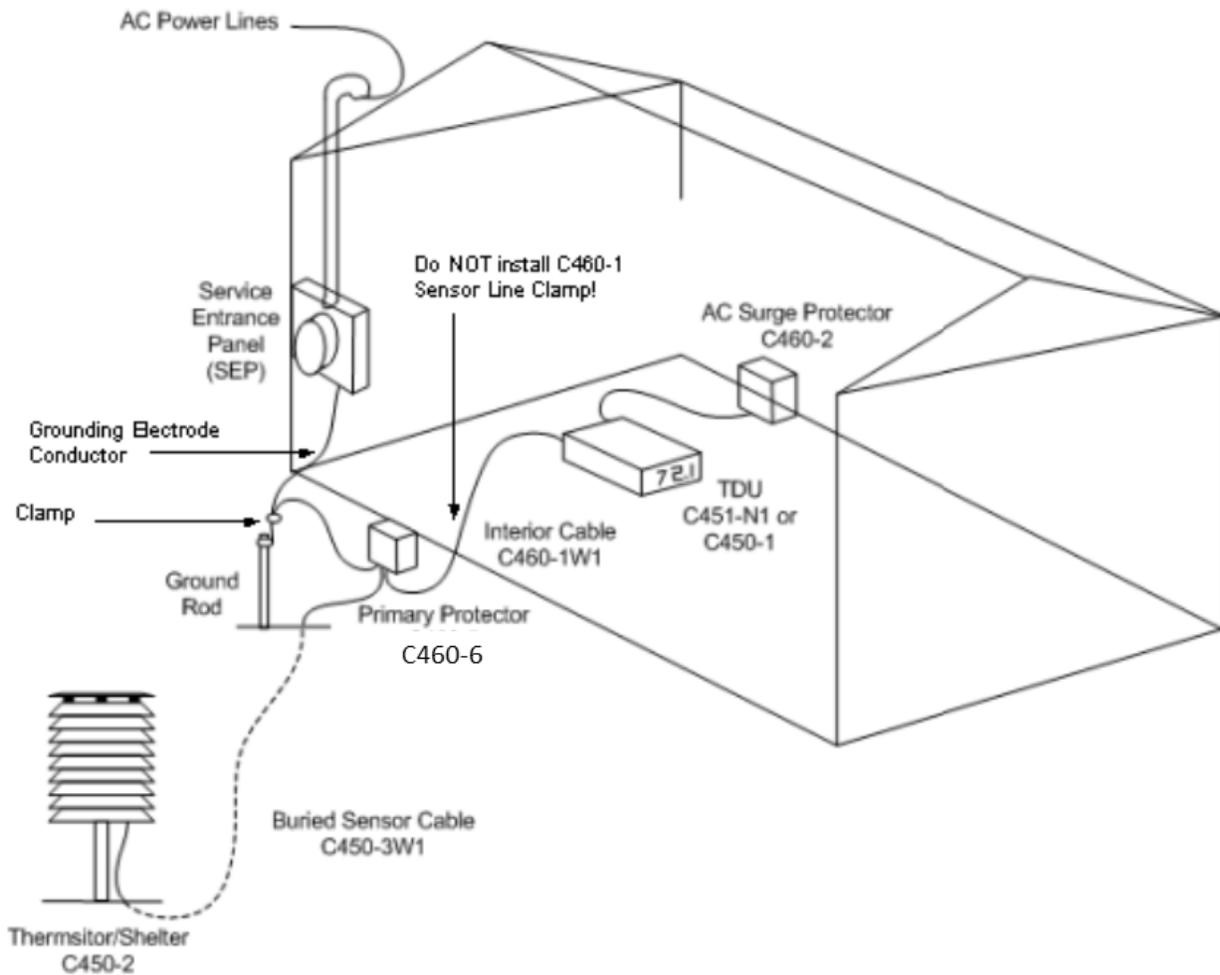
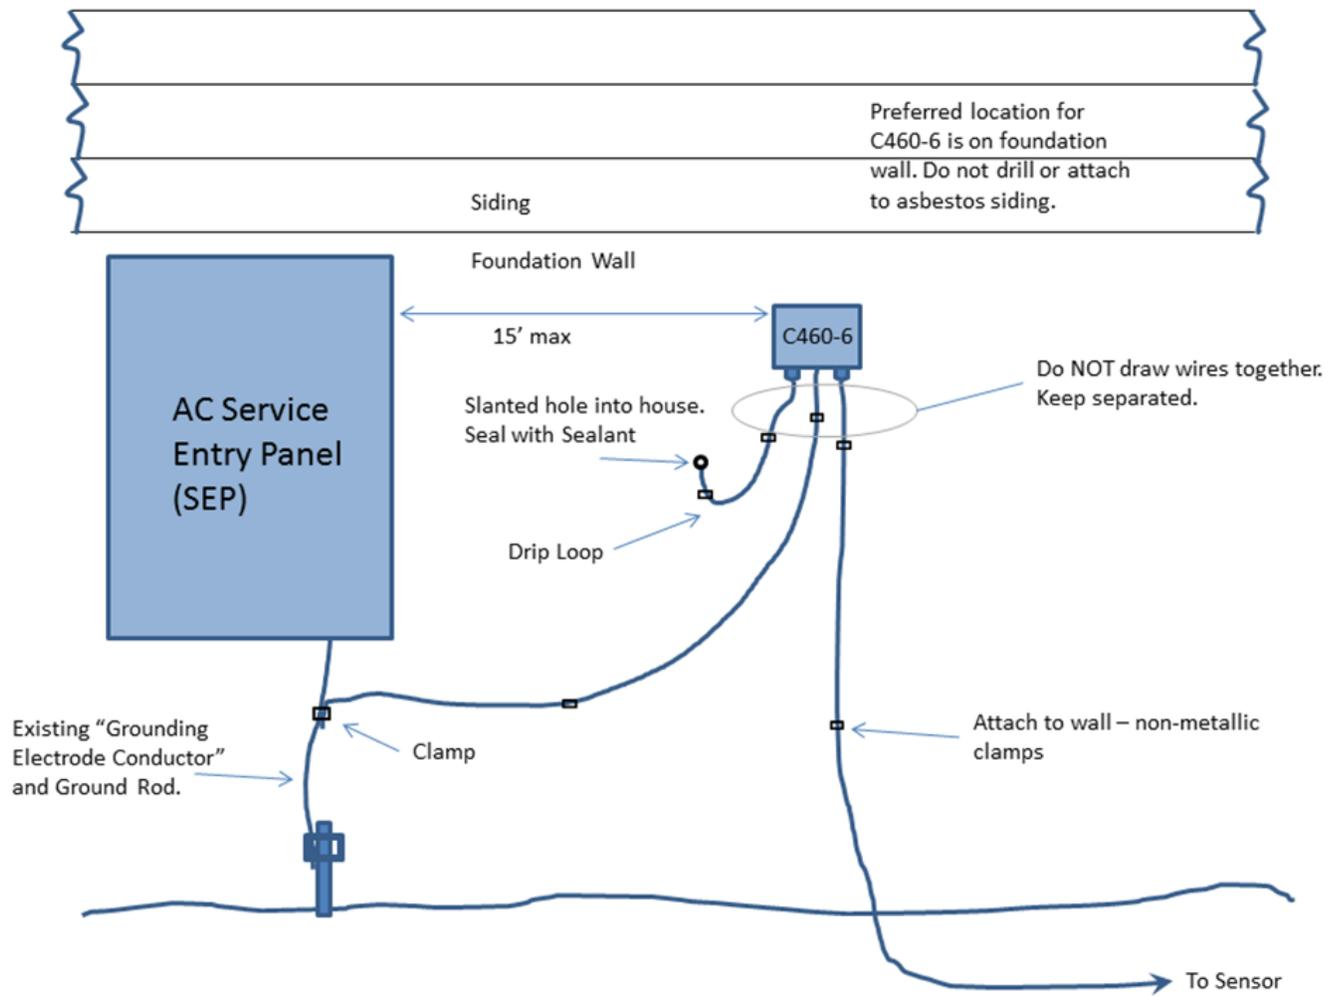
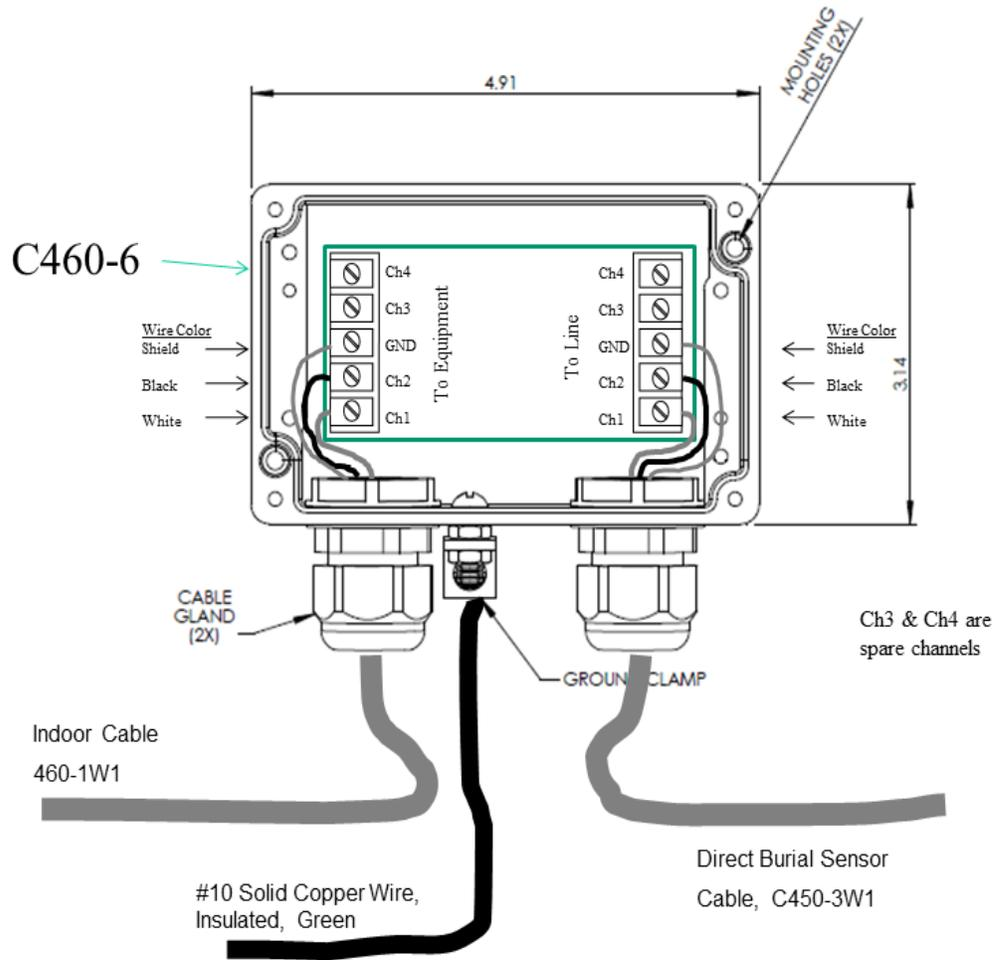

Figure A-1: SEP Installation
Figure A-2: Cable Entrance Details
Figure A-3: Primary Protector Wiring
This plan is focused on installations at residences, but is applicable to all facilities. It uses the grounding system of the SEP and will hereafter be referred to as a SEP plan. The SEP plan provides maximum protection for the TDUs, the Observer, and the facility. See Figure A-1 for an overview. The entry of the data lines near the SEP enables the best arrangement for grounding the PPA to the facility ground. This optimum grounding provides the least risk of shock, arcing, and surge damage.
All new and upgraded TDU installations are to be installed so the PPA is in close proximity to the facility AC power SEP. The PPA is to be installed **outside** the facility at this location. The PPA is to be grounded to the facility ground. The rigid, buried, cable from the thermistor sensor is terminated on the IN side of the PPA. From the OUT side of the PPA, the flexible indoor cable is routed into and through the facility to the TDU. See Figure A-1 for a typical installation, and Figure A-2 and Figure A-3 for a typical facility entrance hole and PPA wiring.
9. Connect the display cable from inside the house by performing the following (see Figure A-3):
10. Connect the sensor cable from the field by performing the following (see Figure A-3):